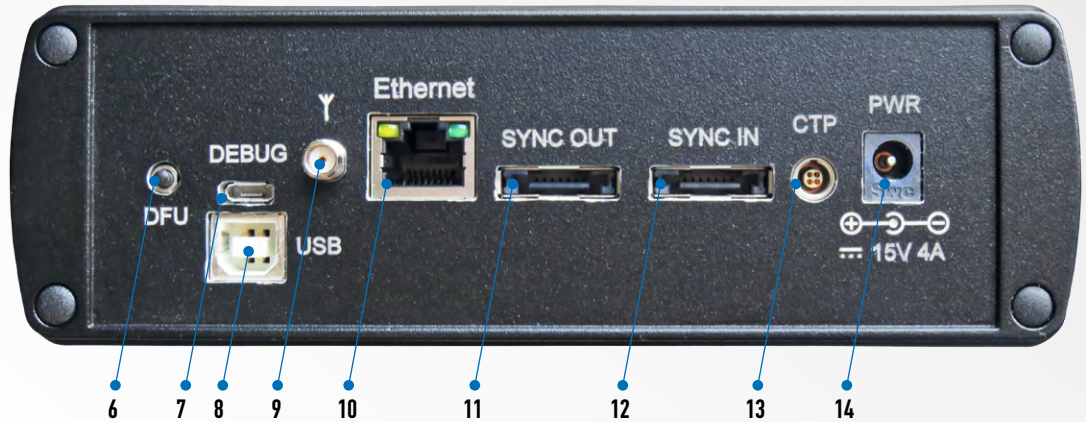

FIGURE 2. A1560 REAR PANEL
3. Press and hold the **DFU** button on the rear panel of the A1560 (Fig.2 Pos.6).
1. Connect the **USB** connector located on the rear panel of the A1560 (Fig.2 Pos.8) to a PC with a standard USB 2.0 A-B cable.